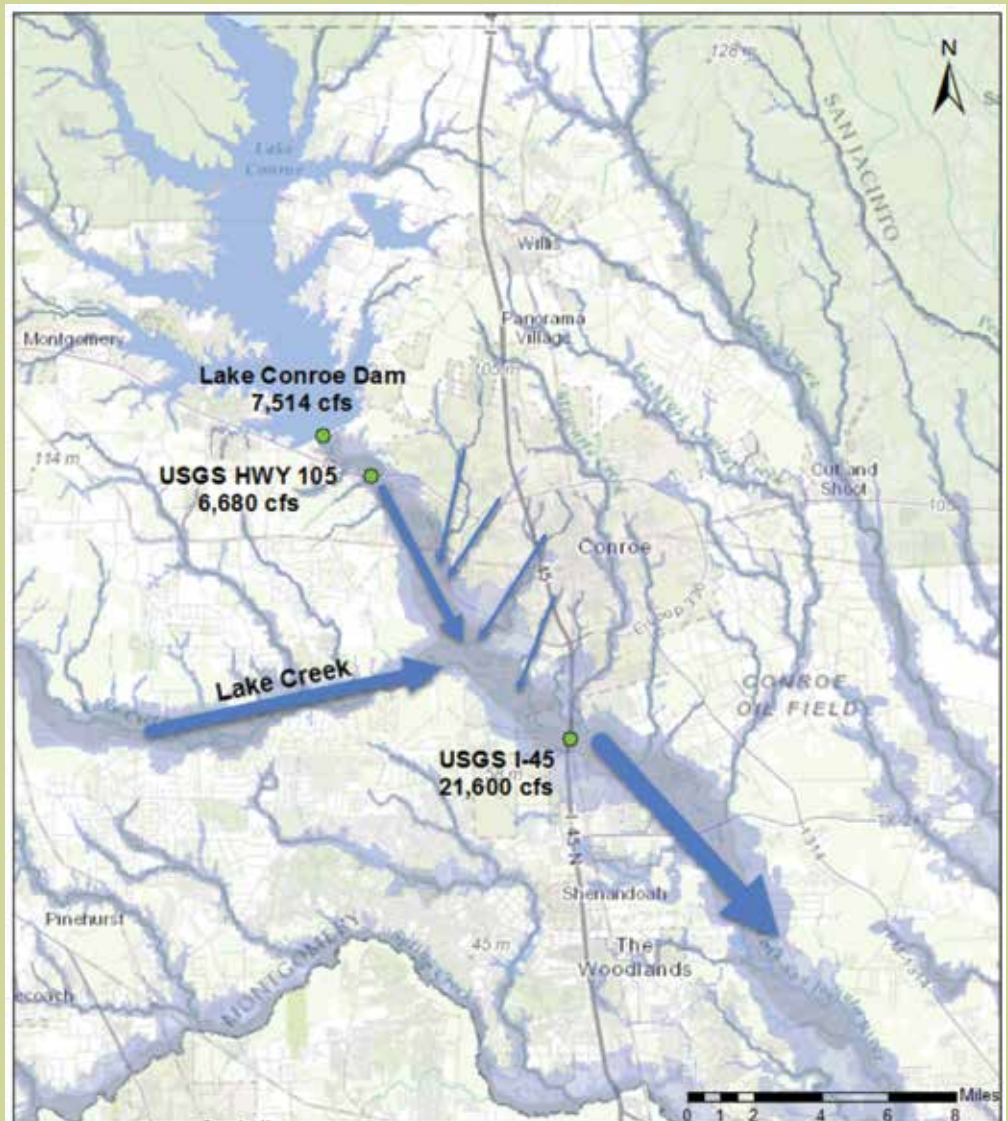

Figure 6. Map showing peak flow measurements at key gauges along the San Jacinto River along with other contributing streams.
• Another important point when it comes to understanding the impact of the Lake Conroe dam is realizing how many different watersheds, or drainage basins, contribute to the overall flow in the river downstream from the lake. The Lake Conroe dam is situated directly on the West Fork of the San Jacinto River, but there are numerous other creeks and streams, such as Lake Creek, Stewart Creek, and others, that all contribute significant amounts of flow into the river as you move downstream. As mentioned above, the Lake Conroe dam provides some amount of buffer to flows coming down the West Fork, but the other major tributaries have no such buffer. Figure 6 shows the peak flows in the river that occurred during the week of May 11th. Lake Conroe contributed only about 7,000 cubic feet per second of the almost 22,000 cubic feet per second that was measured by the river gauge at IH-45. The remaining flows originated primarily from the Lake Creek watershed.